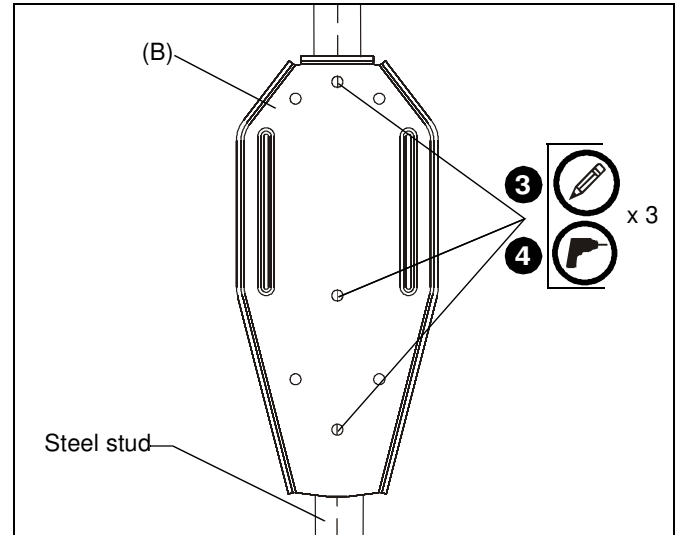

### Figure 4
5. Install three 5/16 x 2-1/2" hex head lag screws (E) through three 5/16" washers (F), inner holes of mounting bracket and into drilled holes. (See Figure 4)